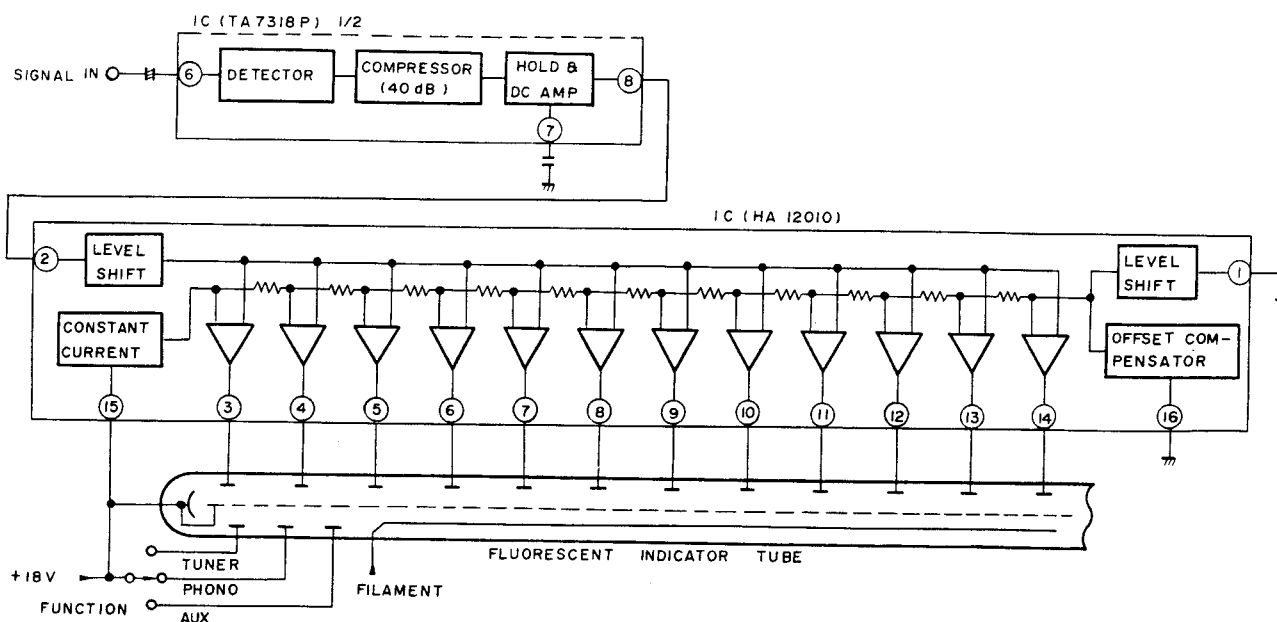

Fig. 4-2 Indicator circuit
An outline of the FL tube drive circuit is shown in Fig. 4-2. The output circuit signal is applied to pin no. 6 (4) of the IC (TA7318P-A). The IC contains a detector circuit, compressor (40dB), and peak hold circuit for both left and right channels. The dynamic range of the signal is thus contracted by 40dB to obtain a "peak held" DC voltage.